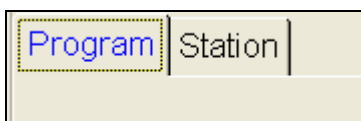

Figure 16.1.6C
4. You will automatically start in the **Program** tab section of **Controller Schedule** (Figure 16.1.6C).